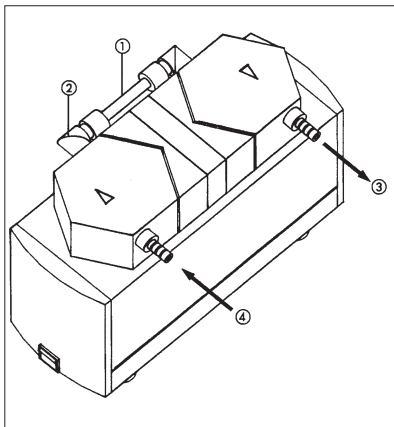

Fig. 15: Mounting the Gas Ballast
- 4 Open the connection of the pump heads (see figure 15).
- 5 Screw out the connecting piece of the vacuum side head (see figure 15).